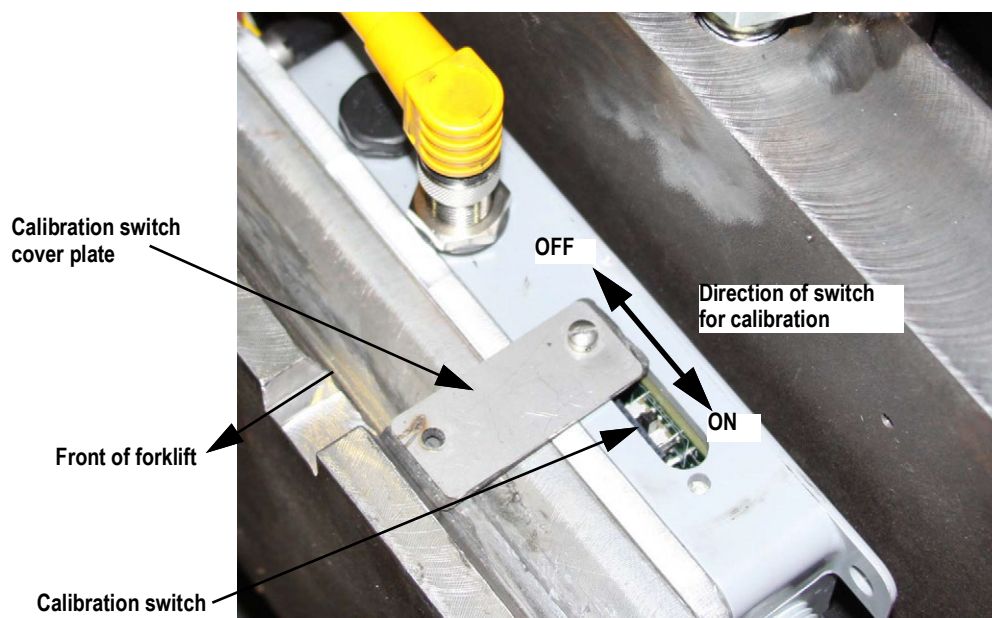

Figure 5-61. J-Box Calibration Switch Location
13. Place the calibration switch into the closed position (Figure 5-61), toward the left hand side of j-box when standing in front of the scale (toward load cell #1).
1. Place calibration switch into the closed position (Figure 5-61), toward the left hand side of j-box when standing in front of the scale (toward load cell #1).
15. Place calibration switch into the closed position (Figure 5-61), toward the left hand side of j-box when standing in front of the scale (toward load cell #1).